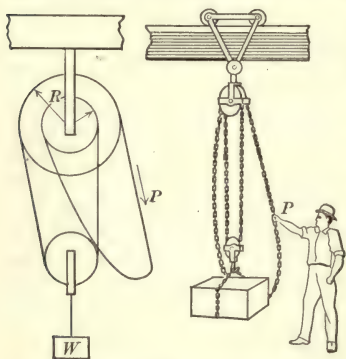

FIG. 30. — Differential pulley.
33. The differential pulley. In shops where heavy machinery is to be lifted, constant use is made of the **differential pulley**, shown in figure 30. This consists of two sheaves of different diameters in the upper block rigidly fastened together, and one sheave in the lower block. An endless chain runs over these blocks. The rims of the sheaves have projections which fit between the links and so keep the chain from slipping. Such a differential pulley has a *very large mechanical advantage*.